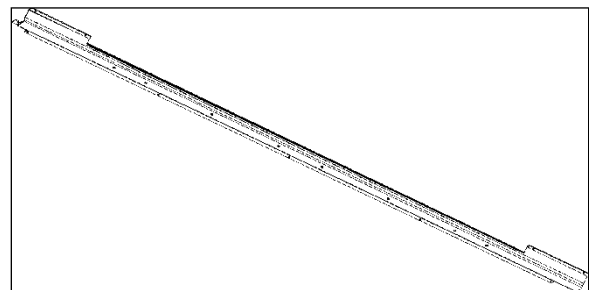

FIGURE 120: LED INDIRECT LIGHTING IN OVERHEAD COMPARTMENT
2. Using a Phillips head screwdriver, unscrew and remove the existing LED strip (FIGURE 120).